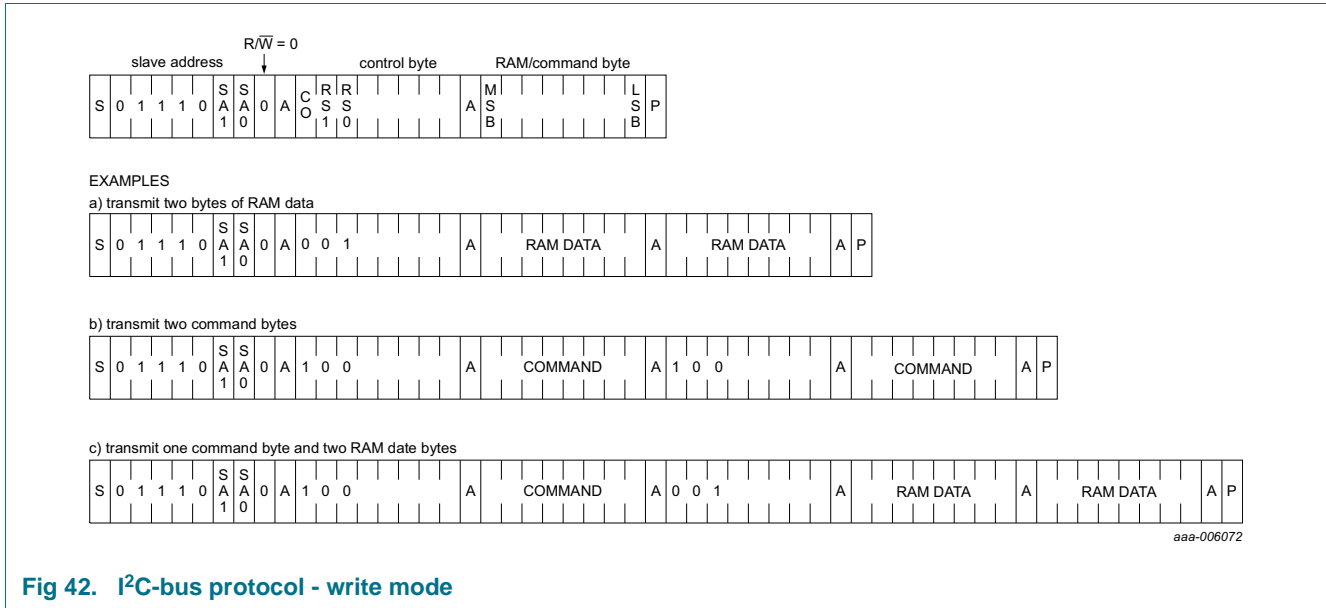

Fig 42. I2C-bus protocol - write mode
The I2C-bus protocol is shown in Figure 42. The sequence is initiated with a START condition (S) from the I2C-bus master which is followed by one of the four PCF8538 slave addresses available. All PCF8538 with the corresponding SA1 and SA0 level acknowledge in parallel to the slave address, but all PCF8538 with the alternative SA1 and SA0 levels ignore the whole I2C-bus transfer.